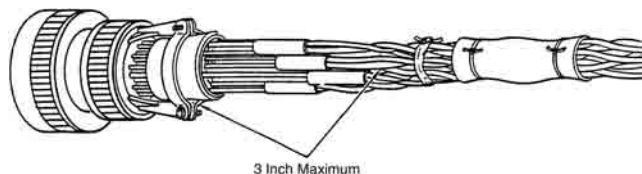
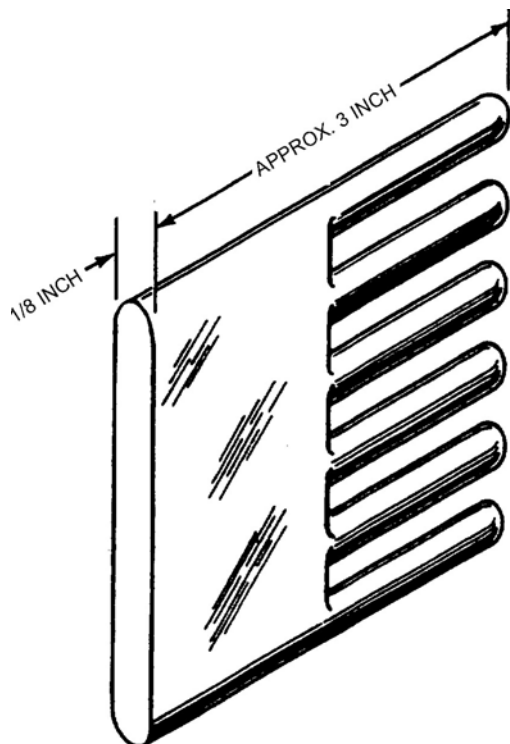

Figure 46. Comb Twisted Wires
Figure 47. Comb for Straightening Wires in Bundles
a. Comb out all wires, except when directed otherwise, so that wires will be parallel to each other in the group or bundle. Twisted wire terminating into a connector with a cable clamp may be untwisted from its original lay a maximum of 3 inches from clamp. Twisted wire may be closer than 3 inches as long as it does not cause interference with servicing of contacts, and is interwoven properly (Figure 46). A useful tool for combing out wires is shown in Figure 47. Make this tool from a piece of 1/8-inch nylon or other smooth insulating material. Be sure all sharp edges are rounded to protect wire insulation.
c. Examine connector and accessory to confirm the wires are routed correctly from the back of the connector as shown in Figure 46.
c. When tying wire bundles behind connectors, start ties far enough back from the connector to avoid splaying of contacts (Figure 46).